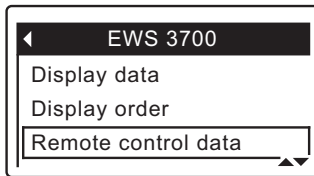

FIG. 71
3. Press the DOWN (▼) button to scroll through the menu options until **Remote control data** is highlighted in a box (See Figure 71).
8. When selections are complete, exit this menu by pressing the LEFT (◀) button. The display will go back to the device menu (Figure 71).